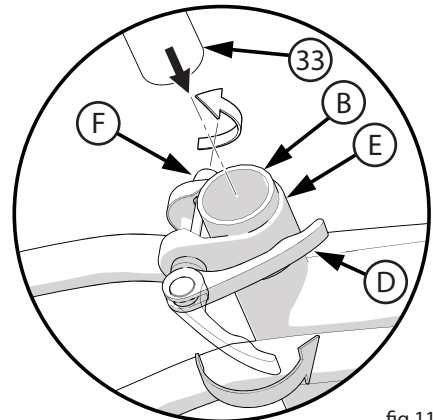

fig 11
Tighten the quick release lever (fig 11):
- Open and close the Quick Release Lever with one hand while you turn the Adjusting Nut (F) with the other hand (**fig 11**).
- Push the Quick Release Lever to the “close” position (**fig 11**).
- When in the “close” position, make sure the Quick Release Lever lays against the Seat Post Clamp (E).